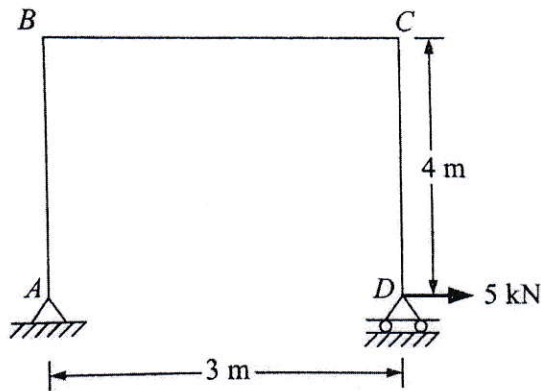

Fig. 6
- c) Determine the horizontal displacement of the roller end D of the portal frame shown in figure 6. EI is 10000 KNm^2 throughout. Use strain energy method. 10